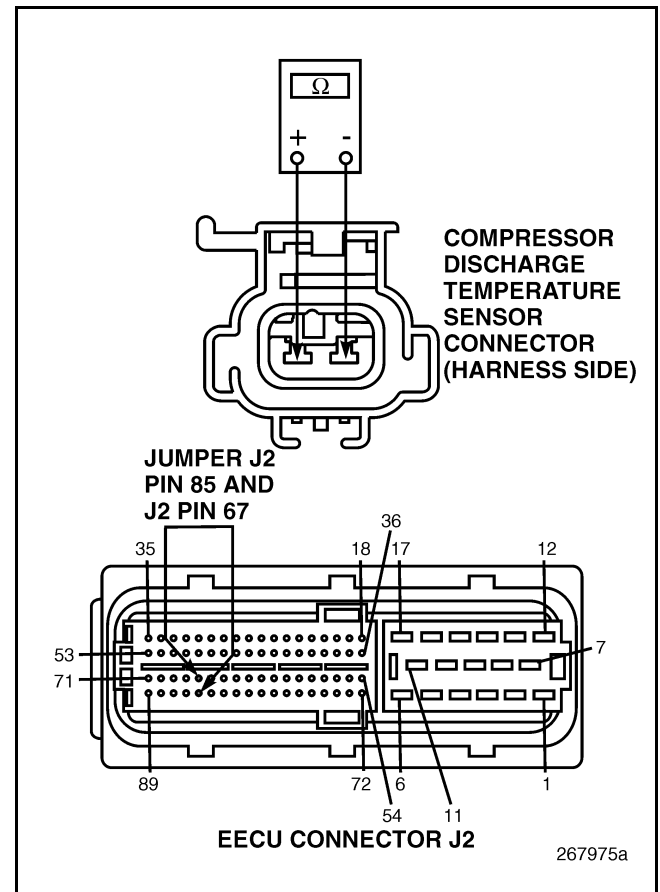

Figure 814
4. Connect a jumper between EECU harness connector J2 pins 67 and 85 (see Figure 814).